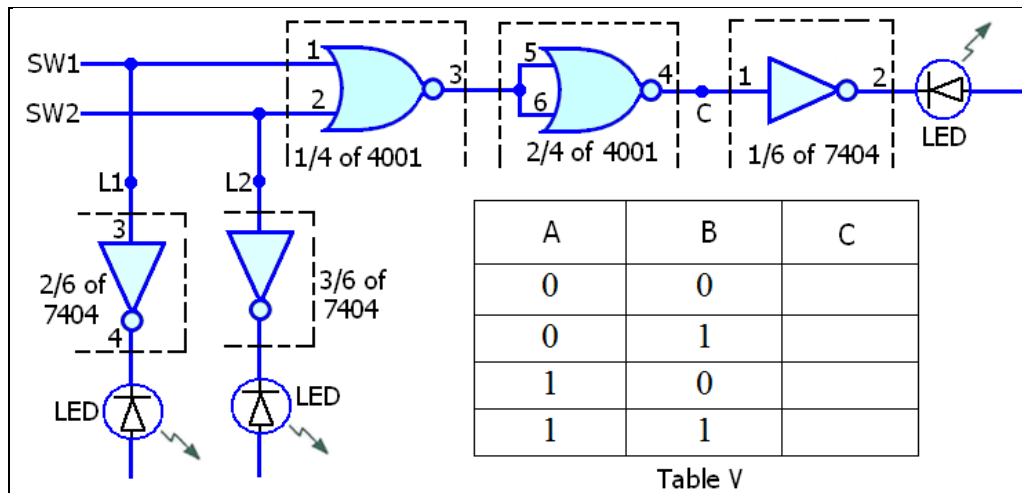

Fig. 2-4
13. Wire the circuit shown in Fig. 2-4 with SW1 (A) and SW2 (B); apply the input states shown in Table V. record the output state for each set of inputs. Observe LED indicators L1, L2, and L3 to obtain your input and output data. Use positive logic (binary 1 = ON, binary 0 = OFF).
14. Study the circuit in Fig. 2-4 and the data in Table V. what logic function is being performed? .....